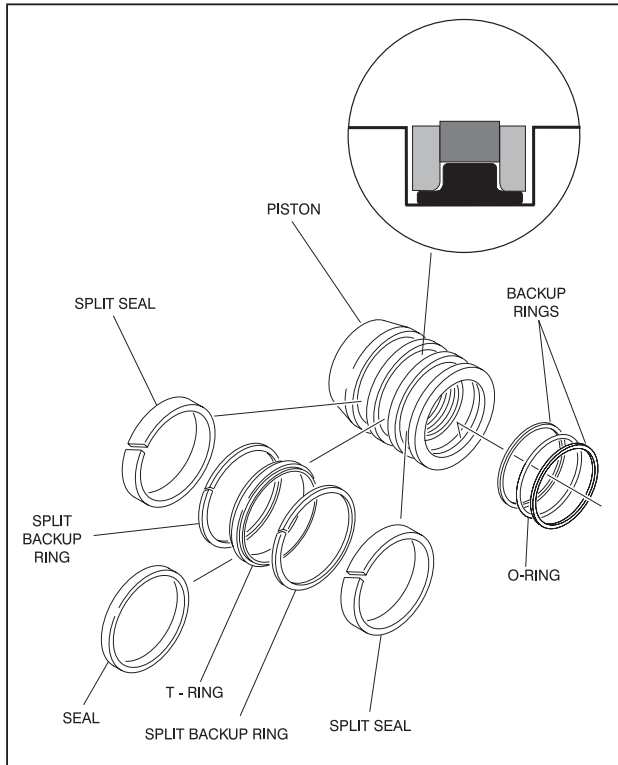

Figure 4-11. Piston Seal Kit Installation
NOTE: The backup rings for the solid seal have a radius on one side. This side faces the solid seal. (See magnified insert in (See Figure 4-11.)) The split of seals and backup rings are to be positioned so as not to be in alignment with each other.
9. Place new guide locks and seals in the applicable outside diameter grooves of the cylinder piston. (See Figure 4-11.)